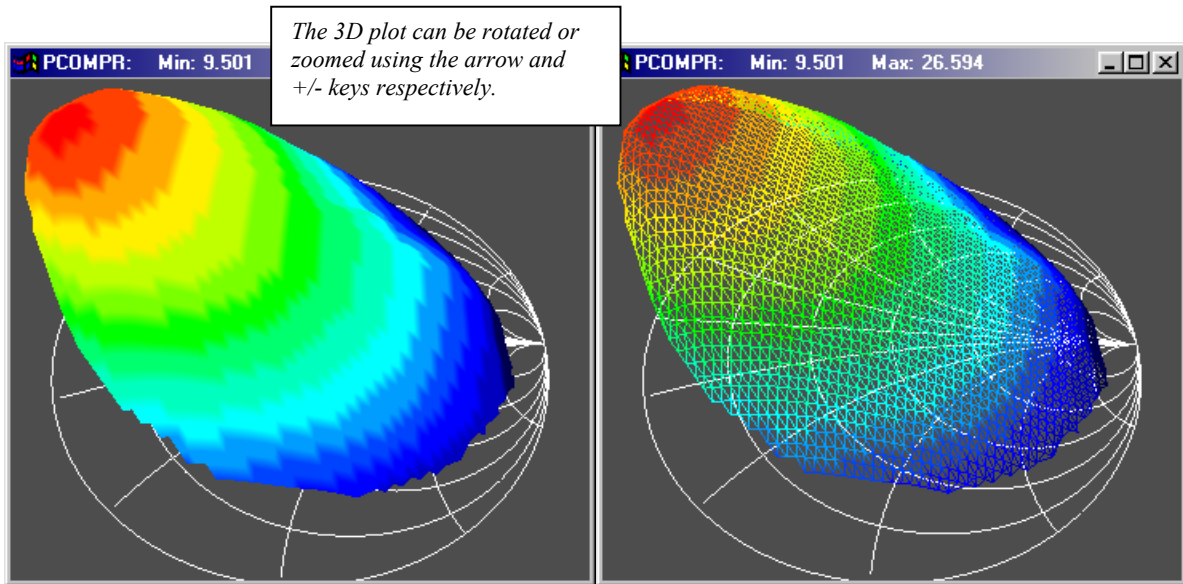

Figure 16: Load Pull 3D plot in solid and grid view
- Display the Load Pull Smith Chart plots as an OpenGL 3D Plot (Figure 16).